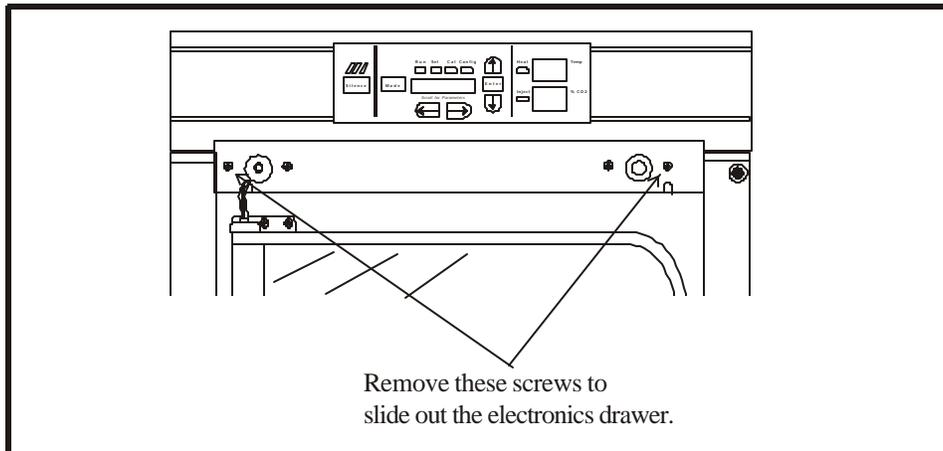

Figure 5-3
4. Remove two screws as shown. See Figure 5-3.